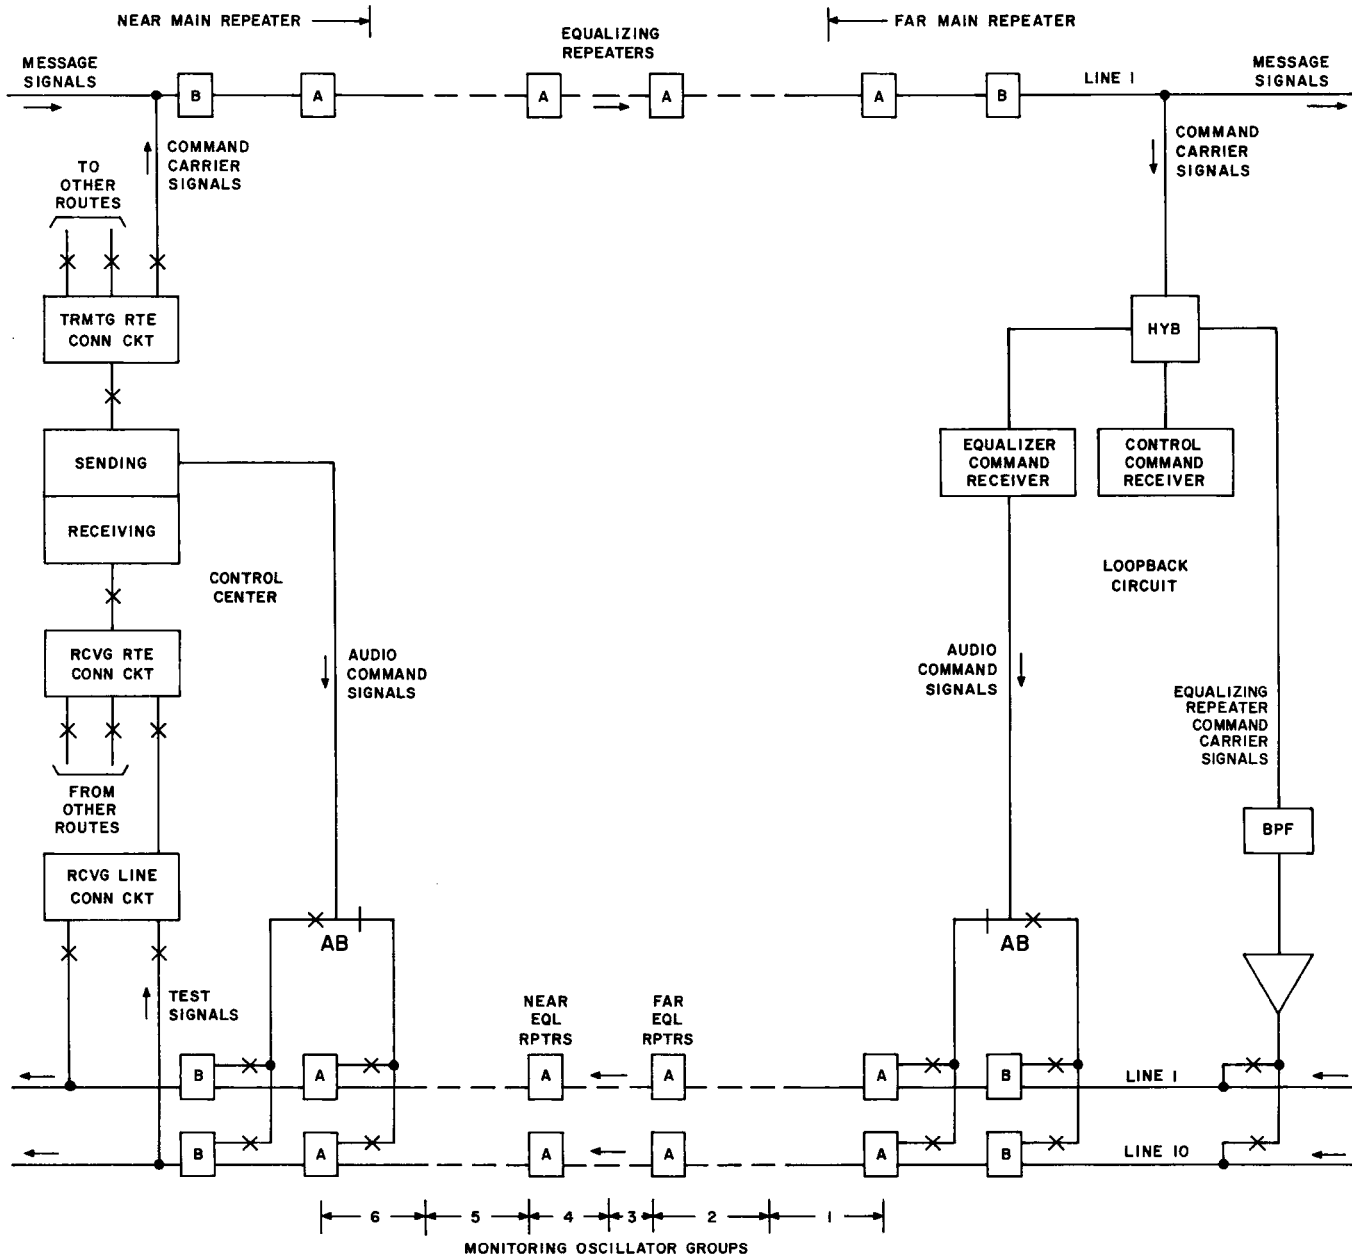

Fig. 1—Simplified Block Diagram of Remote Control System
1.04 The block diagram in Fig. 1 is provided to aid in understanding the procedures explained in this section. Only the one-section control arrangement is shown. Basically, 2-section control and sideleg route control are very similar to one-section control. Differences, mainly in sideleg